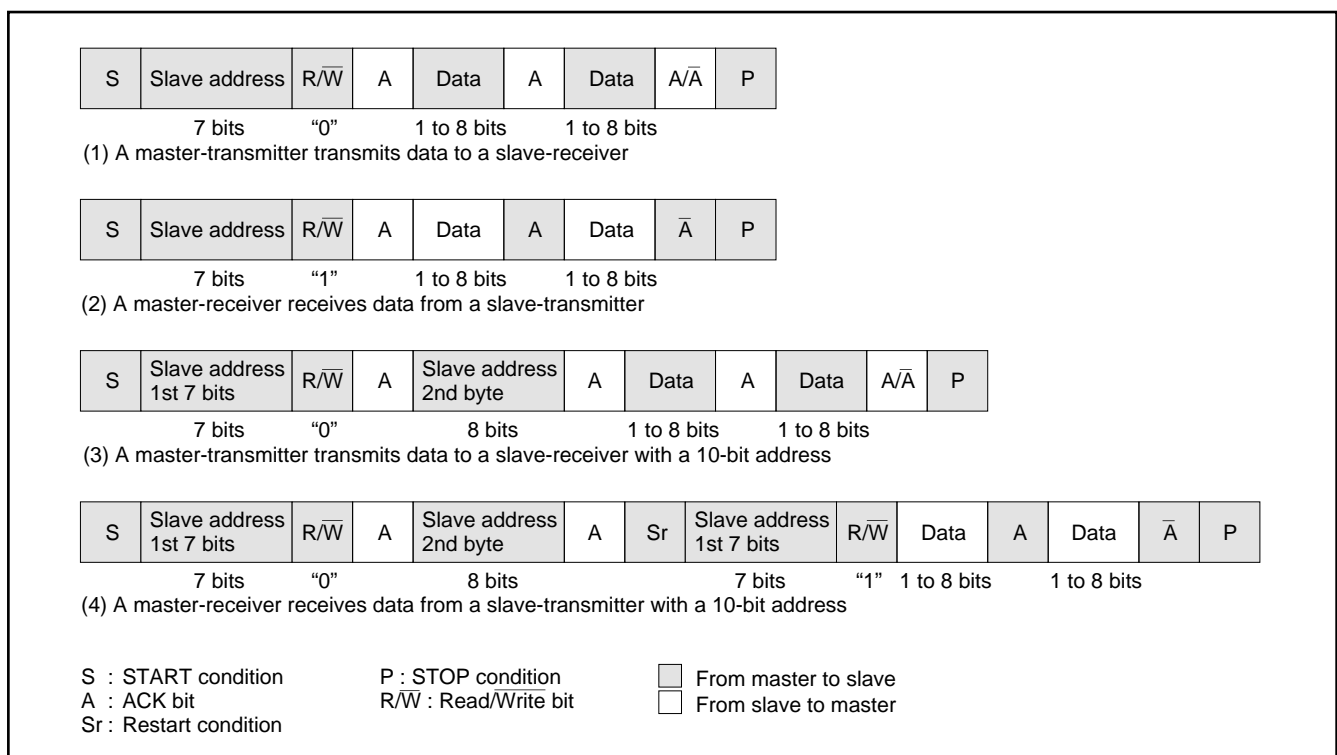

Fig. 46. Address data communication format
To meet the 7-bit addressing format, set the 10BIT SAD bit of the I2C control register (address 00F916) to "0." The first 7-bit address data transmitted from the master is compared with the high-order 7-bit slave address stored in the I2C address register (address 00F716). At the time of this comparison, address comparison of the RBW bit of the I2C address register (address 00F716) is not made. For the data transmission format when the 7-bit addressing format is selected, refer to Figure 46, (1) and (2).
When the first-byte address data matches the slave address, the AAS bit of the I2C status register (address 00F816) is set to "1." After the second-byte address data is stored into the I2C data shift register (address 00F616), make an address comparison between the second-byte data and the slave address by software. When the address data of the 2nd byte matches the slave address, set the RBW bit of the I2C address register (address 00F716) to "1" by software. This processing can match the 7-bit slave address and R/W data, which are received after a RESTART condition is detected, with the value of the I2C address register (address 00F716). For the data transmission format when the 10-bit addressing format is selected, refer to Figure 46, (3) and (4).
- ⑥ •When all transmitted addresses are "0" (general call)